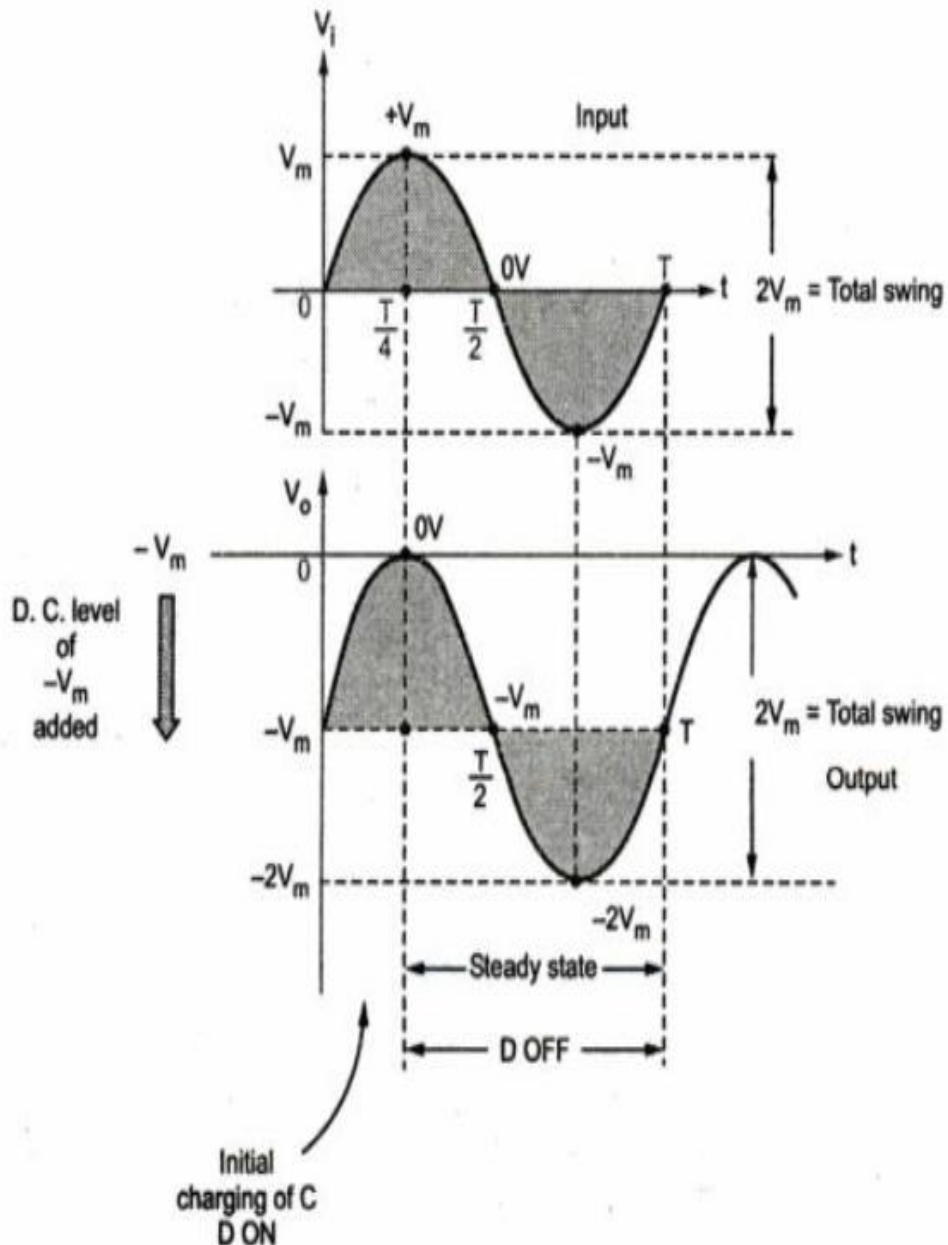

Fig. 2.26 Negative clamper waveforms
- Assuming ideal diode, the input and output waveforms are shown in the Fig. 2.26.